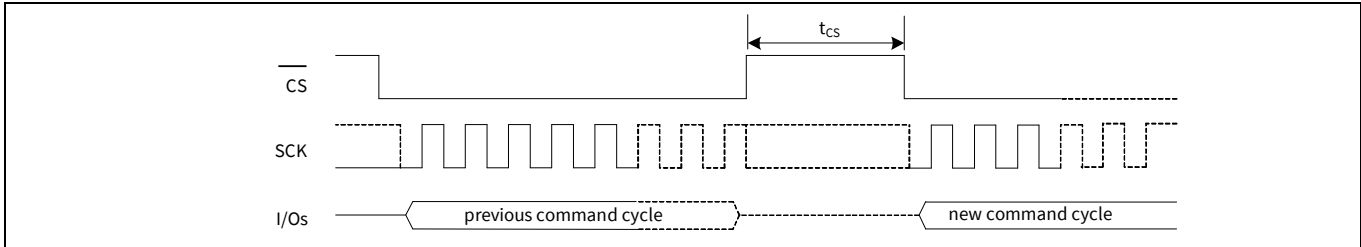

Figure 117 Chip deselect (\overline{CS} HIGH) - t_{CS} timing
23. t_{CS} is the minimum chip deselect (\overline{CS} HIGH) time before the new command cycle starts in a specific SPI mode (SPI, DPI or QPI). This parameter ensures that previous operation is successfully completed before the host starts a new command cycle. Refer to **Figure 117**.
28. t_{CS} is the minimum chip deselect (\overline{CS} HIGH) time before the new command cycle starts in a specific SPI mode (SPI or QPI). This parameter ensures that previous operation is successfully completed before the host starts a new command cycle. Refer to **Figure 117**.